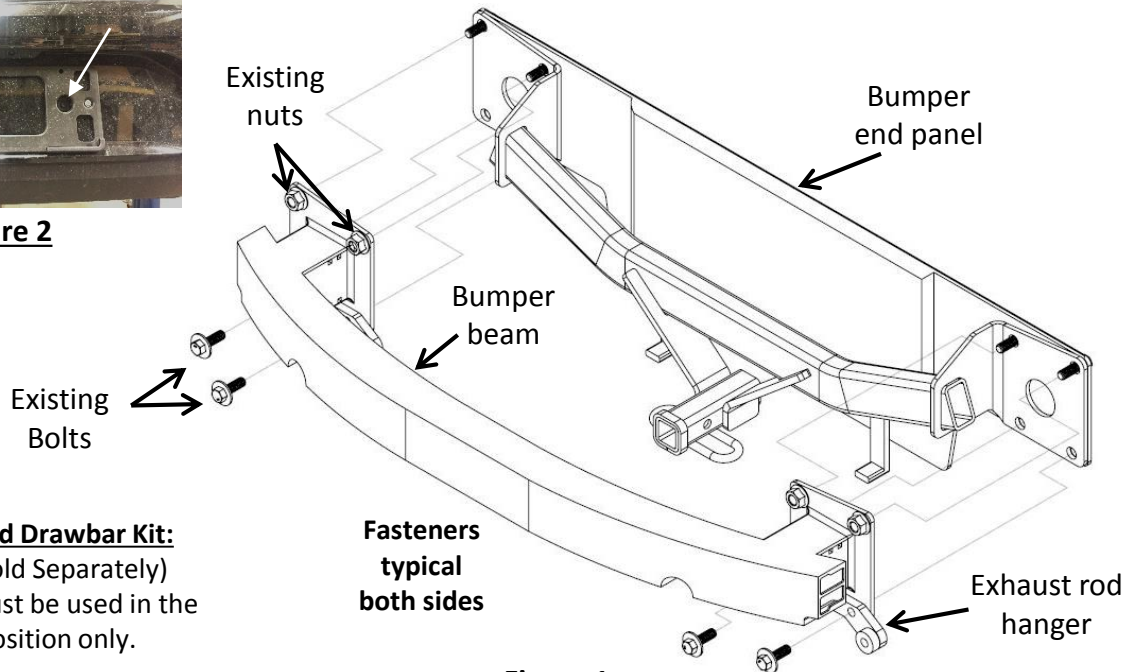

Figure 1
- 2. Bumper beam removal** – use 15mm socket to remove (2) flange nuts and (2) bolts from bumper beam each side, see **Figure 1**. Gently remove bumper beam and exhaust rod hangers. Use a support to keep exhaust system from getting damaged.
- 3. Hitch installation** – raise the hitch and align top 2 holes of the hitch to the studs on the bumper end panel. Raise the bumper beam and exhaust rod hangers to sandwich the hitch, see **Figure 1**. Reuse the flange nuts and bolts.